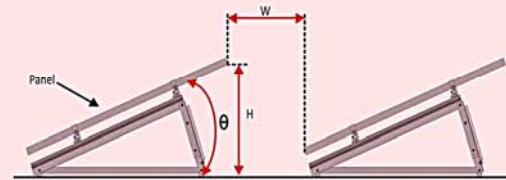

Fig. 3: Measurement of minimum panel spacing
- The minimum panel spacing W is given by the formula $W = H \times U$, where H is the vertical height of the panel from the base as shown in fig.3 below and U can be determined from the table A corresponding to the latitude of PV site.